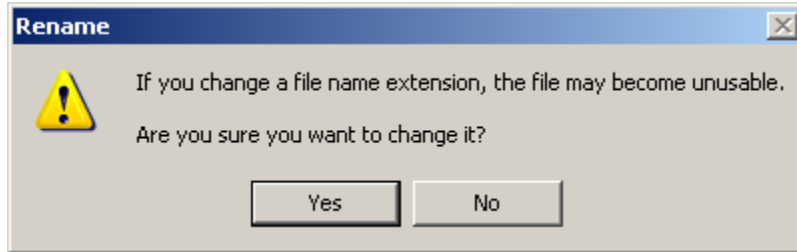

Figure 3-41—File extension rename warning window.
- b) Open the outputs folder in the ArcFuels directory. Find the mtemily_weather_nws.txt file right-click on the file and select **Rename** from the menu that opens. Change the txt extension to “wtr.” A warning window will open, click **OK** to close the window and change the extension (fig. 3-41).